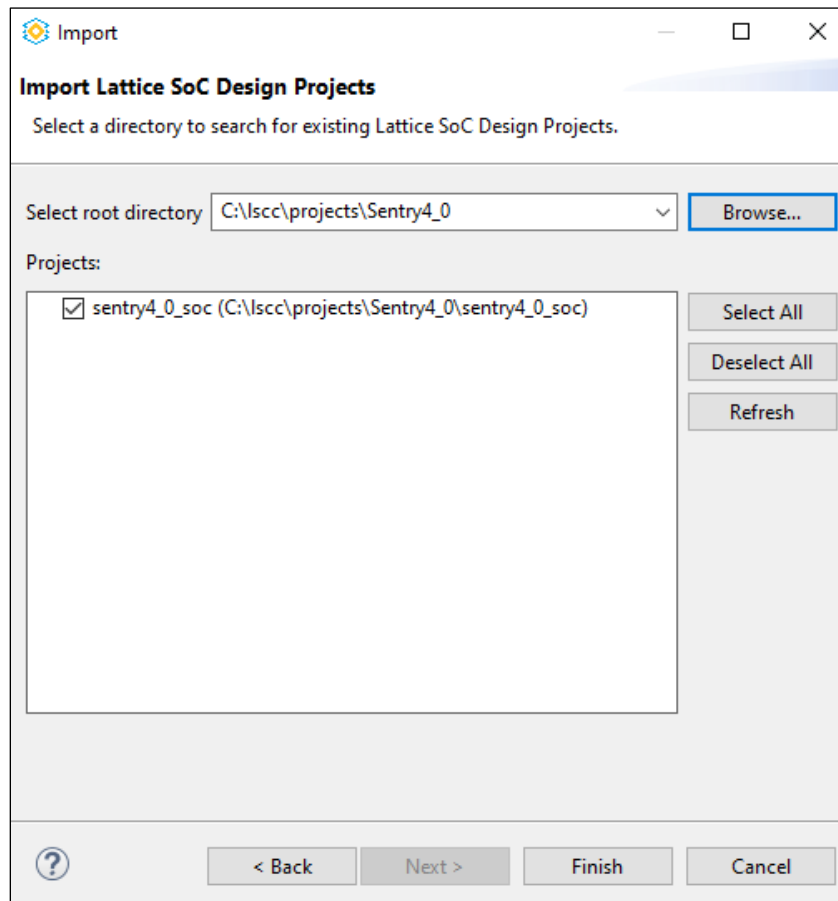

Figure 5.6. Identify Lattice SoC Design Projects
- The Import tool automatically identifies the SoC project (Figure 5.6). If the SoC project does not show up in the list, make sure that the SoC project's outer directory folder ends with the characters “_soc,” and repeat Steps 3-6.